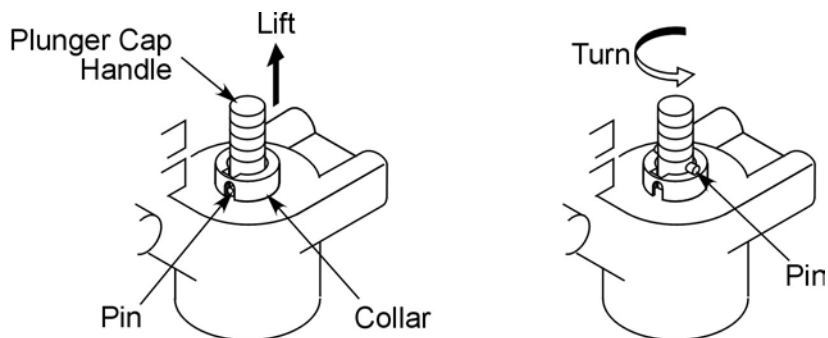

Figure 7. Lifting and turning the plunger cap handle.
2. Lift and turn the plunger cap handle (located on top of the plunger assembly) until the pin locks it in the up position as shown in Figure 7.